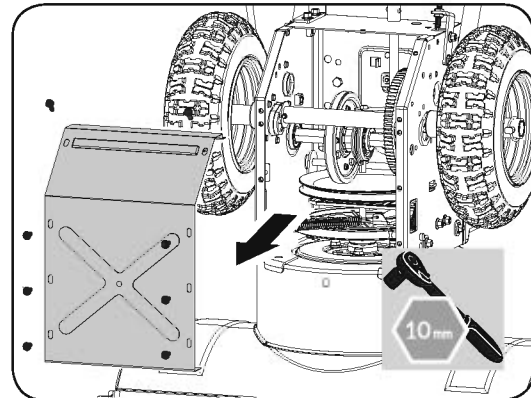

Figure 16c
5. Remove the frame cover from the underside of the snow blower by removing the screws which secure the cover. (See **Figure 16c**)
4. Remove bottom cover to avoid bending it when tipping unit apart. (See **Figure 16c**)
3. Remove the frame cover(s) from the underside of the snow blower by removing the screws which secure the cover(s). (See **Figure 16c**)